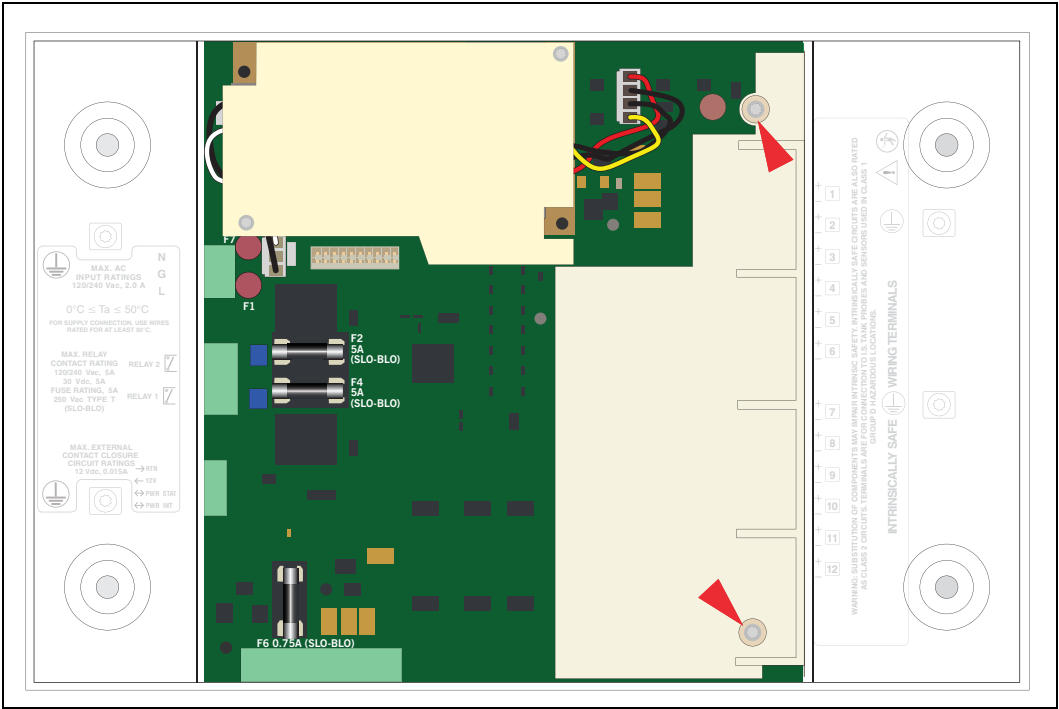

Figure 11. Remove Two T15 Screws Securing I.S. Cover
5. Remove the two T15 #6 x .375 screws securing the I.S. cover and right side of the USIOM board to the console chassis (see Figure 11). Set the plastic I.S. cover, the two T15 screws holding the cover aside.